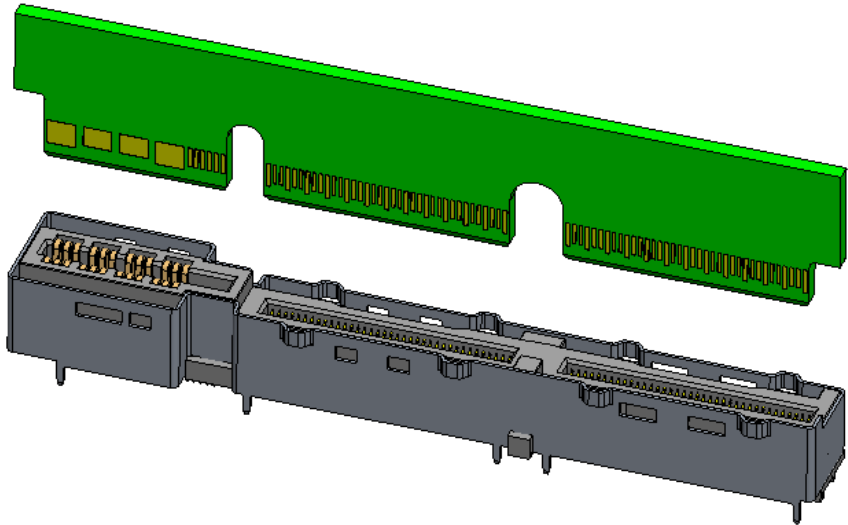

Figure 4-16 Combo x16+34A High Power AIC Application
1. A single add-in card (AIC) can plug into the Vertical Combo DE x16+34A Power connector as shown in Figure 4-16.